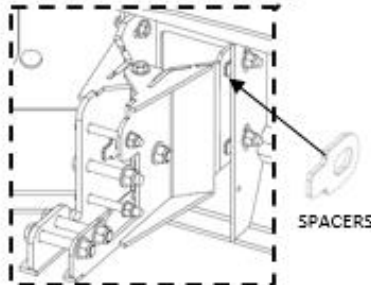
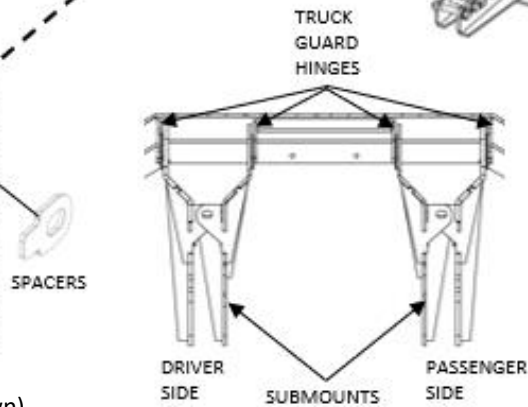

Figure 3b: Truck Guard installation (driver side shown)
Figure 3c: Submounts position
4. Install the HERD Truck Guard to the Submounts, **follow the position shown in Figure 3b and Figure 3c.** Adjust the HERD Truck Guard and use provided Spacers (1/16" and/or 1/8") if necessary. Tighten all mounting fasteners (1/2") after adjustment, and **torque to 96 lb-ft.**